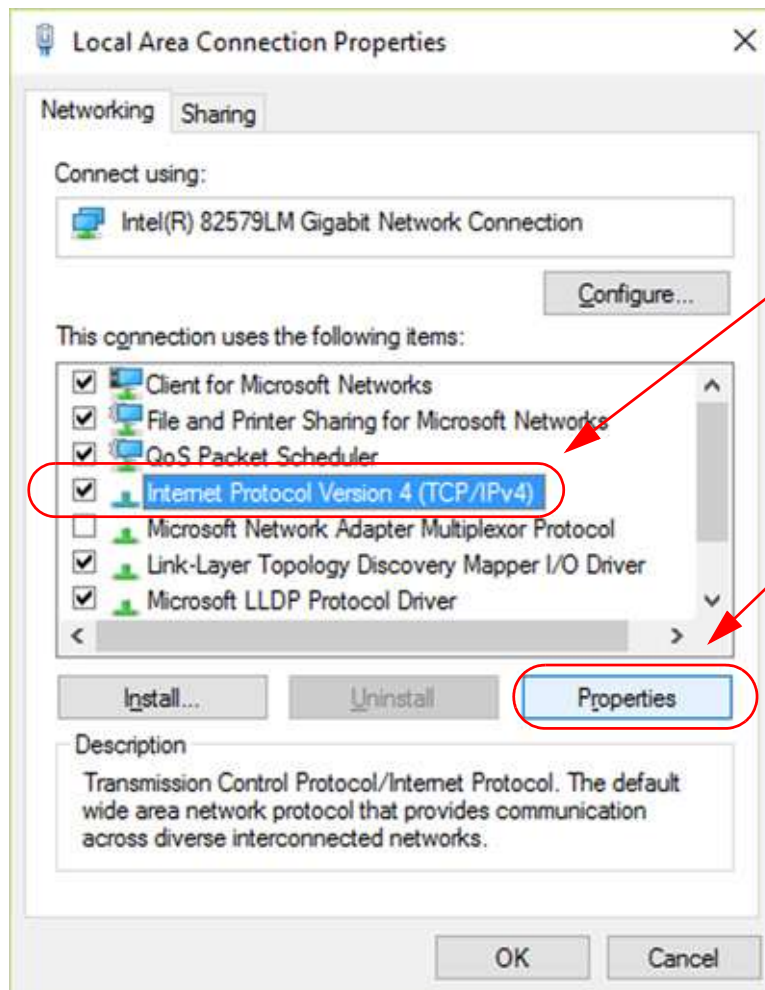

Figure 3.23: IPv4: Properties
- Now click on the Local Area Connection icon to set up IPv4 Properties (see Figure 3.23).